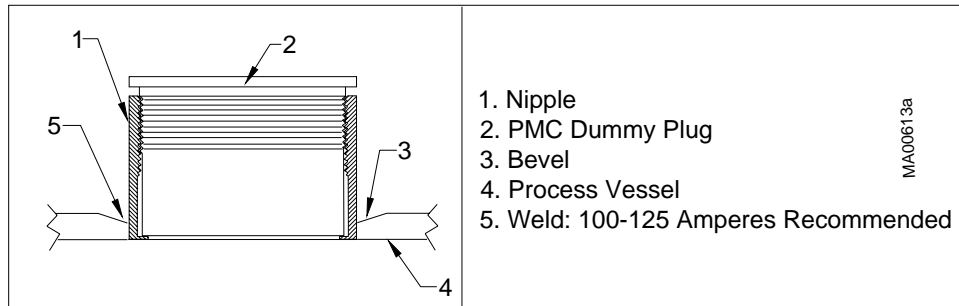

FIGURE 11 PMC Dummy Plug
- Screw the dummy plug into the nipple. See Figure 11.